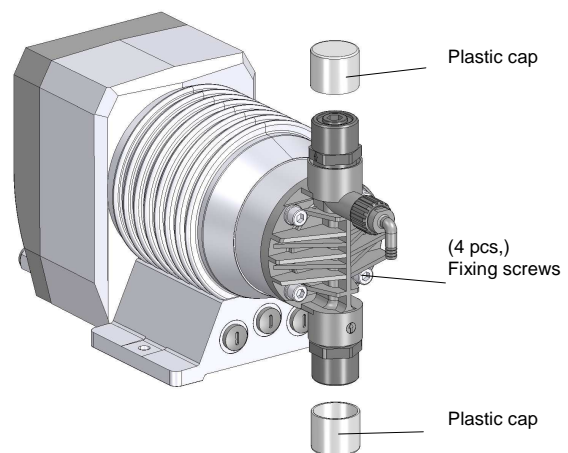

Fig. 15 Solenoid diaphragm pump with plastic caps
- Prior to connecting the pipes, remove the plastic caps on the suction and pressure sockets of the pump. (see Fig.15).